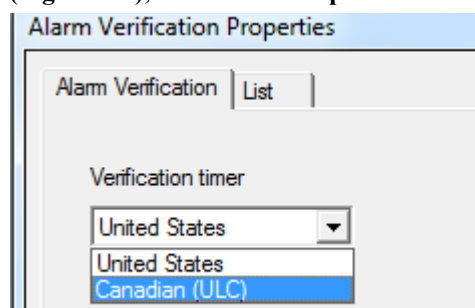

Figure 8-3. Alarm Verification Properties Dialog
To select Canadian or Domestic (US) operation (Figure 8-3), follow these steps: